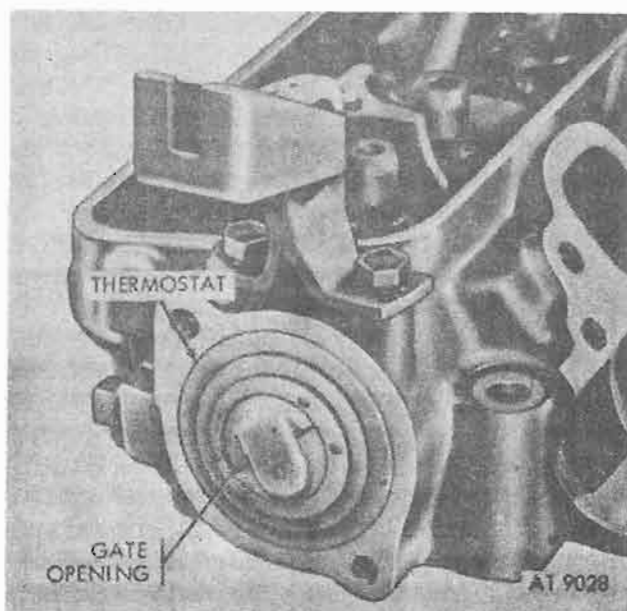

Figure 4-127. Thermostat.
(2) *Thermostat.* Remove thermostat from recess in cylinder head (fig. 4-127). For testing thermostat, refer to TM 9-2320-218-20.
(2) *Thermostat.* Check thermostat (para 4-76 e). Install thermostat in recess of cylinder head with gate opening facing outward. Refer to figure 4-127.
d. *Install Expansion Plug.* Refer to paragraph 5-60 a for installation procedure. Refer to figure 4-127.